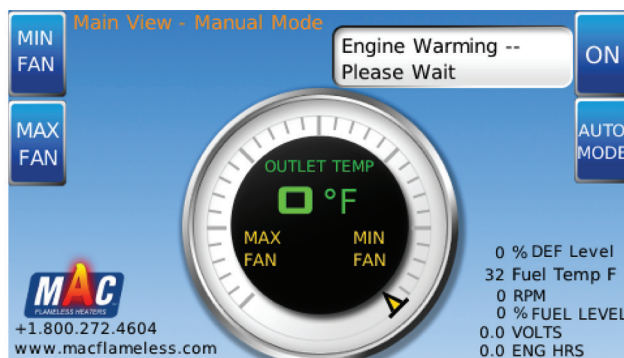

Figure 3-3. Engine Warming
4. The screen displays "Engine Warming" (**Figure 3-3**).